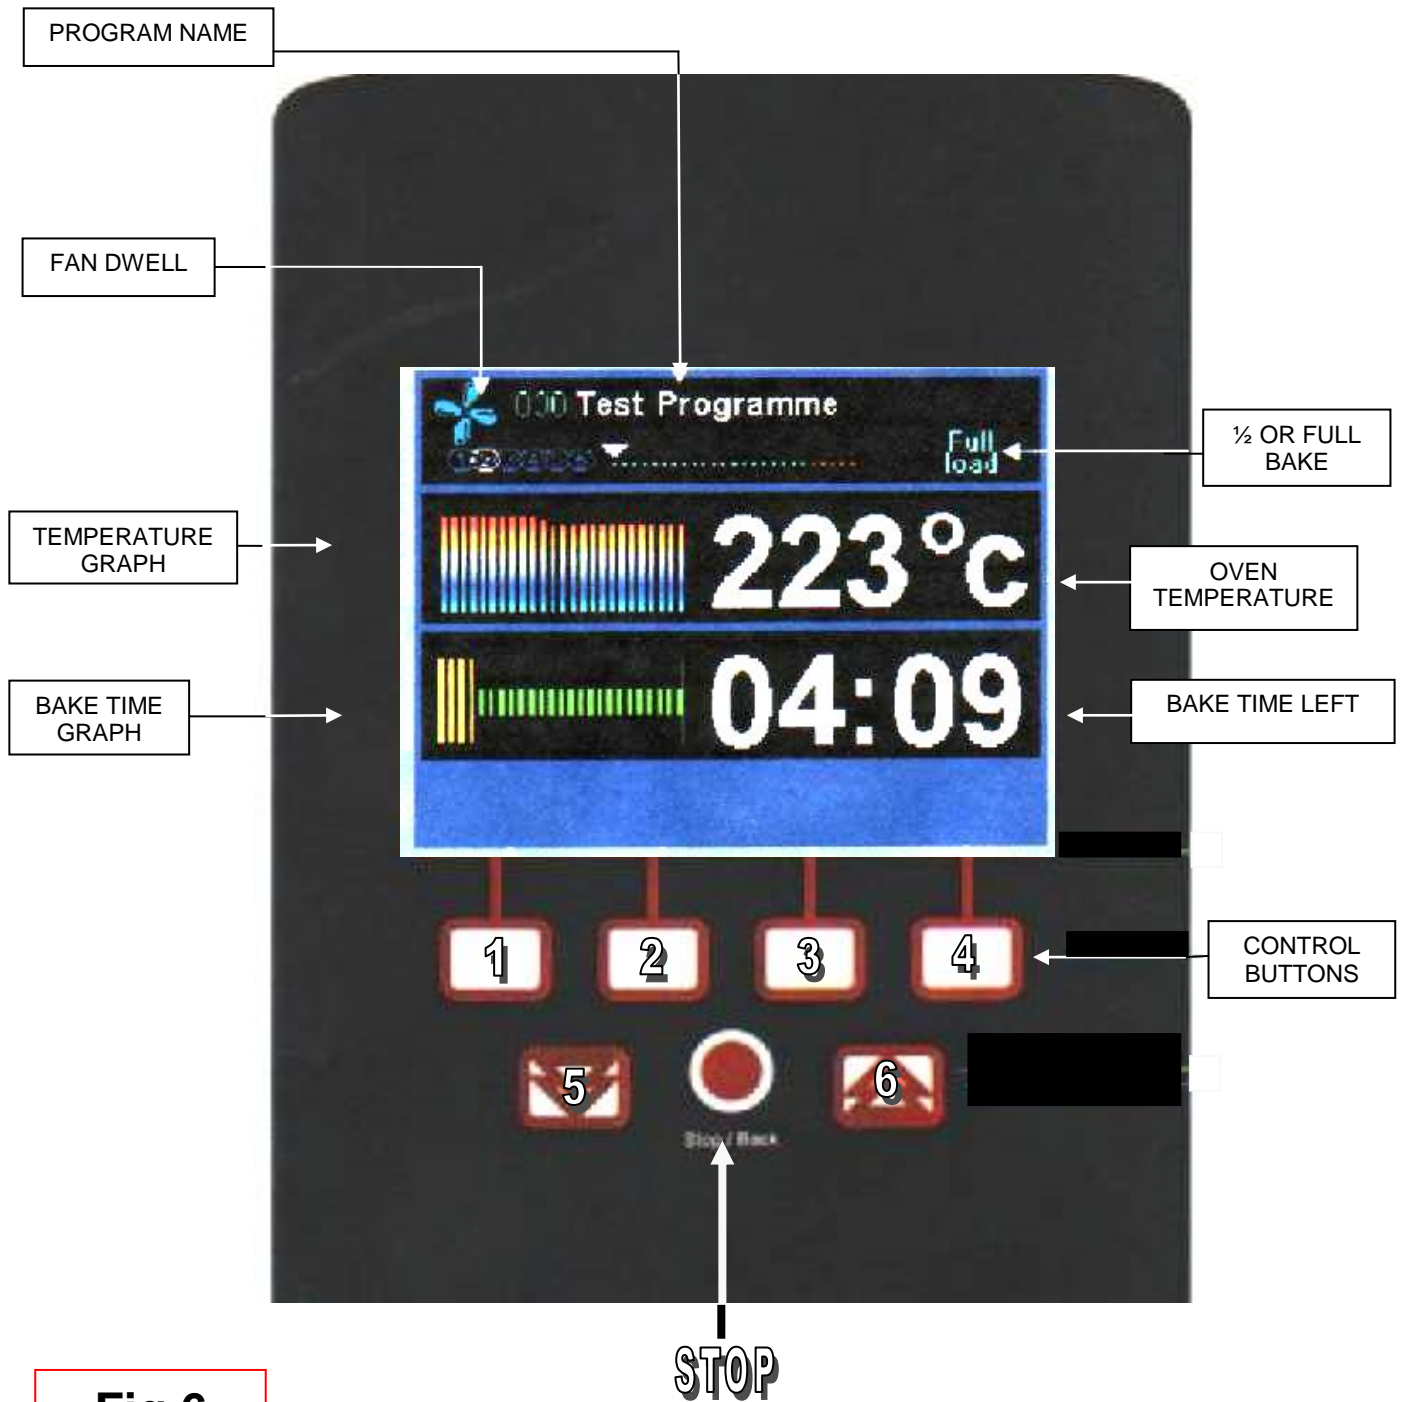

Fig 6
(5)=10 places down and (6) = 10 places up (see fig 6)